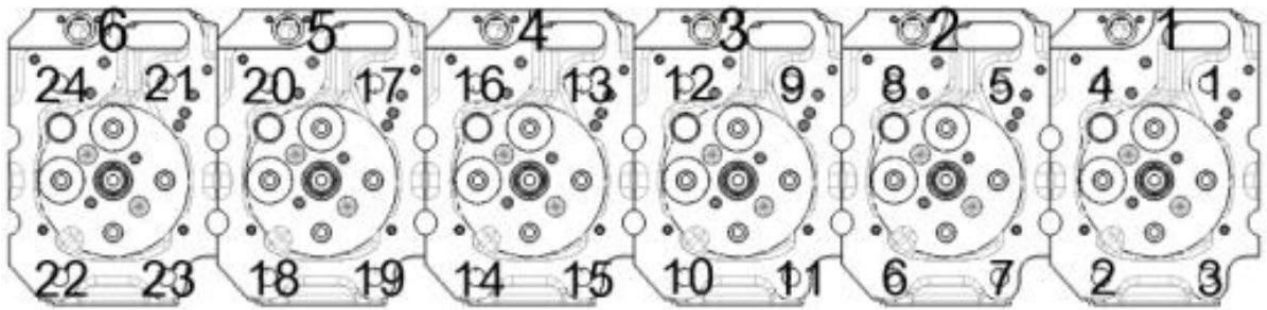

Figure 52. Cylinder Head Main Bolt Assembly
3. Loosen the bolts (Figure 52, 5) and remove ignition coil bush clamp (Figure 52, 6).
4. Remove the ignition coil bush (Figure 52, 7) and the gasket (Figure 52, 8).
5. Remove the cylinder head main bolts in the following order (Figure 52)